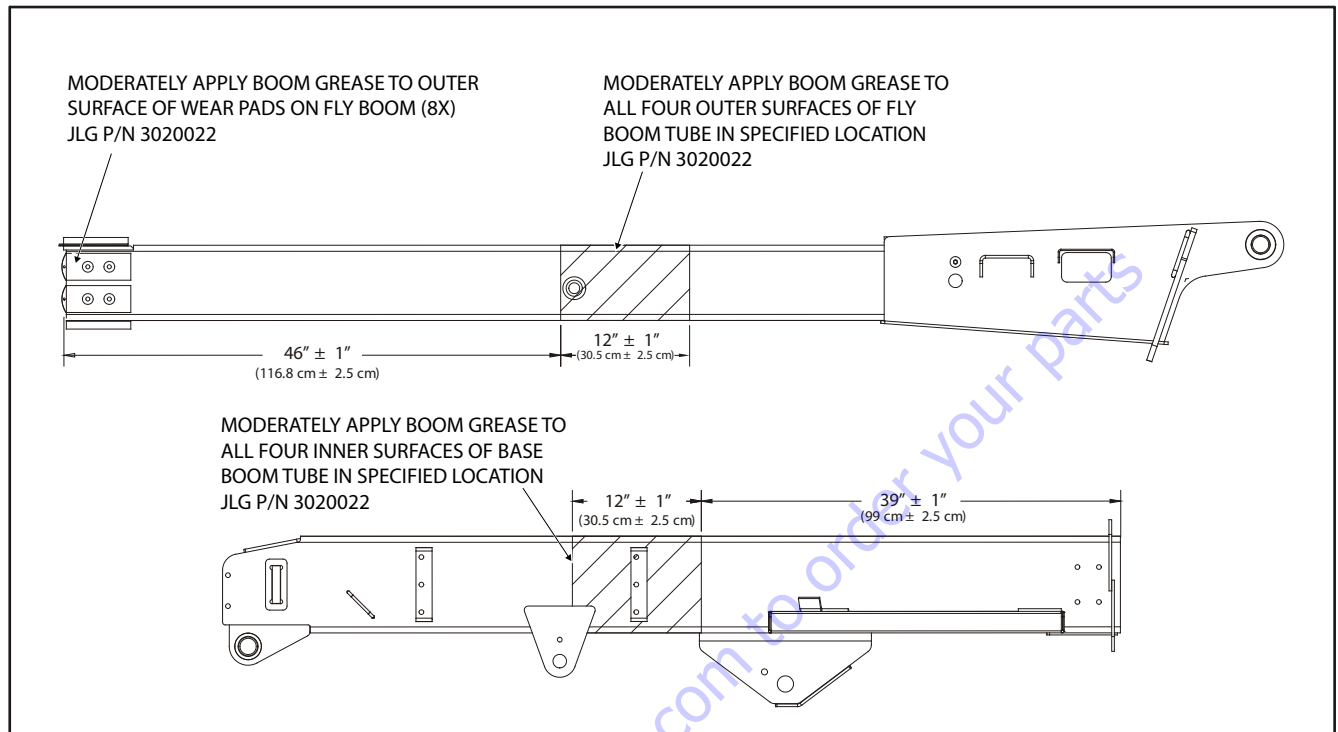

Figure 4-4. Boom Lubrication Instructions
1. Lubricate the boom sections as shown in Figure 4-4., Boom Lubrication Instructions.